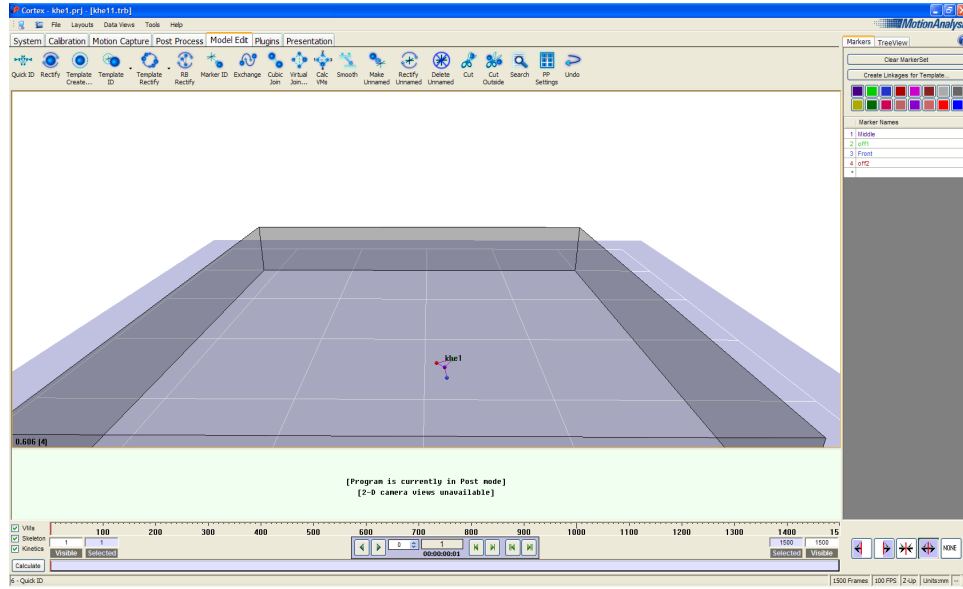

Figure 8: Model edit.
- You can create links between the markers by clicking in **Create Linkages for Template** and drawing a straight between two markers. In the end, your model will look like figure 8.